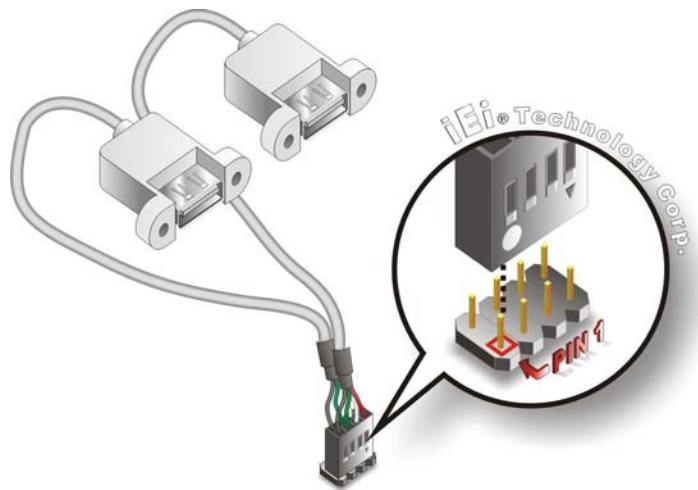

Figure 5-18: Dual USB Cable Connection
Step 3: Insert the cable connectors. Once the cable connectors are properly aligned with the USB connectors on the WAFER-945GSE, connect the cable connectors to the on-board connectors. See **Figure 5-18**.